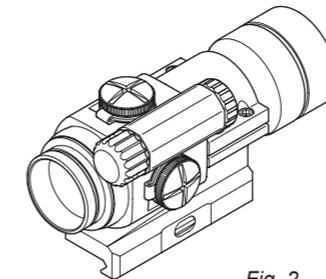
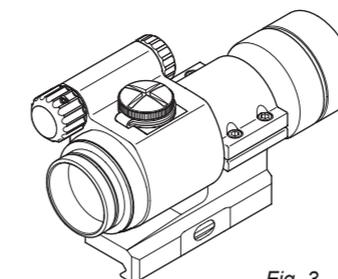

Fig. 2
Fig. 3
- b. Ensure that the sight is correctly positioned for right or left hand shooting. See (fig 2) and (fig. 3).
NOTE: Installing the Rubber cover (10) requires right-handed shooter configuration (fig. 2).